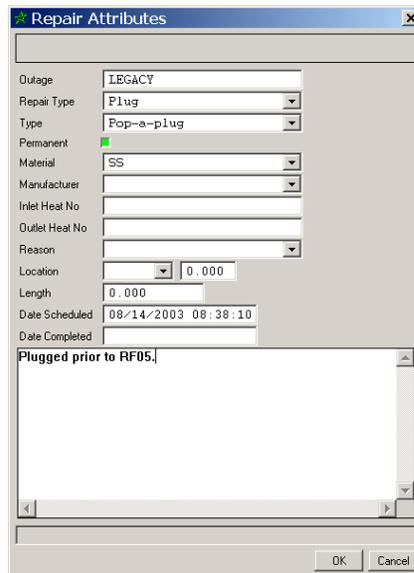

Figure 9-5. Repair Attributes Dialog
- STEP 17:** Your *Repair Attributes* dialog should look like the one shown in Figure 9-5. Click *OK* on the *Repair Attributes* dialog. 24 plugged tubes now exist in the *repairs* table of the database and are visible in the *Repairs* dialog.